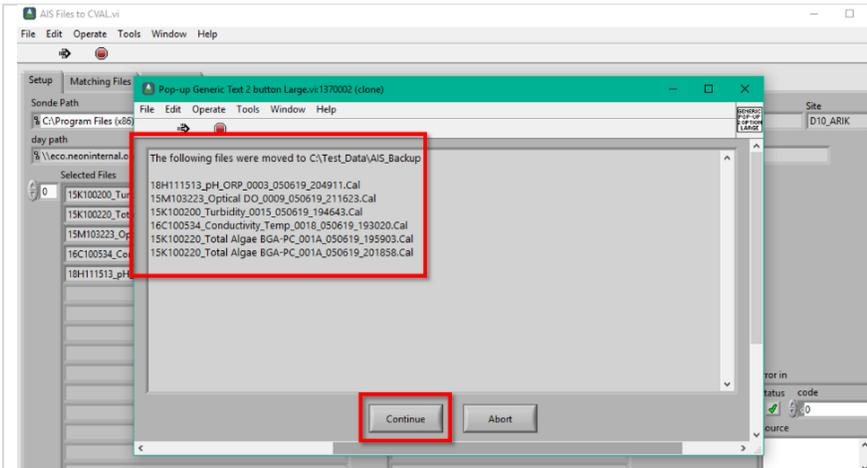

Figure 150. Archival of Kor calibration files on C Drive
**STEP 7** | This screen displays the files that the application moves from the Kor folder to an Archive folder on the C Drive. Notice in **Figure 150**, there are two files for Chlorophyll. That is because the probe sensor failed its initial calibration.